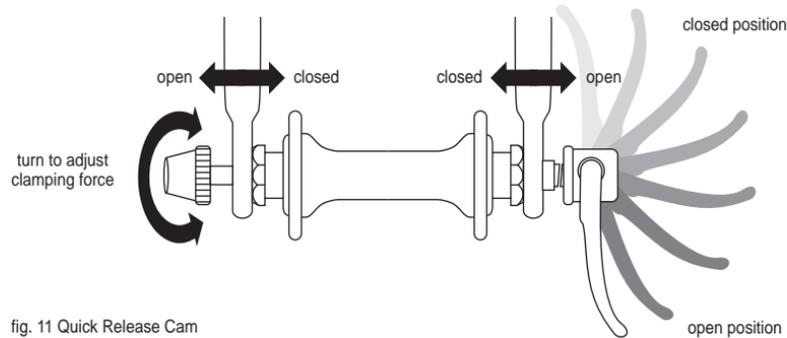
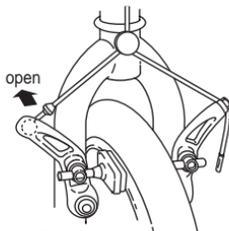

fig. 11 Quick Release Cam
fig. 16A
Invented in the 1930s to allow quick, easy wheel removal without the need for tools, the bicycle wheel quick release has become standard equipment on most recreational, sports and competition bicycles. While it looks like a long bolt with a lever on one end and a nut on the other, the wheel quick release uses a cam action to clamp the bike's wheel in place (see fig. 11). Because of its adjustable nature, it is critical that you understand how it works and how to use it properly.
## 1. Adjusting the quick release mechanism (see Fig. 11, opposite)
- (1) Open up the brake shoes (see Section 6.C.1, Figs. 16a, b, c and d).
- (2) Rotate the wheel's quick-release lever from the locked or CLOSED position to the OPEN position (Fig. 11, 12 & 13).
(3) If your front fork *does not* have a secondary retention device go to step 5.
(4) If your front fork has a *clip-on* type secondary retention device, disengage it and go to step (5). If your front fork has an *integral* secondary retention device, loosen the tension adjusting enough to allow removing the wheel; then go to step (5).
(5) Raise the front wheel a few inches off the ground and tap the top of the wheel with the palm of your hand to knock the wheel out of the front fork.
(1) Rotate the quick-release lever so that it curves away from the wheel (fig. 11 & 13). This is the OPEN position.
(3) Holding the quick-release lever in the OPEN position with your right hand, tighten the tension adjusting nut with your left hand until it is finger tight against the fork dropout (fig. 11).
(4) While pushing the wheel firmly to the top of the slots in the fork dropouts, and at the same time centering the wheel rim in the fork, rotate the quick-release lever upwards and push it into the CLOSED position (fig. 11 & 12). The lever should be parallel to the fork blade and curved toward the wheel.
- (1) Shift the rear derailleur to high gear (the smallest, outermost rear sprocket).
- (2) Open up the brake shoes (see Section 6.C.1, figs. 16A, B, C and D).
- (3) Pull the derailleur body back with your right hand.
- (4) Rotate the quick-release lever to the OPEN position (fig. 11 & 13).
- (5) Lift the rear wheel off the ground a few inches and, with the derailleur still pulled back, push the wheel forward and down until it comes out of the rear dropouts.
(3) Rotate the quick-release lever to the OPEN position (see fig. 11). The lever should be on the side of the wheel opposite the derailleur and freewheel sprockets.
(1) Open up the brake shoes (see Section 6.C.1, figs. 16A, B, C and D).
(2) With a 15mm box wrench or a six inch adjustable wrench, loosen the two axle nuts.
(3) If your front fork has a *clip-on* type secondary retention device, disengage it and go to step (4). If your front fork has an *integral* secondary retention device, loosen the axle nuts about six full turns; then go to step (4).
(4) Raise the front wheel a few inches off the ground and tap the top of the wheel with the palm of your hand to knock the wheel out of the fork ends.
(1) Open the rear brake shoes (see Section 6.C.1, figs. 16A, B, C and D).
(2) Shift the rear derailleur to high gear (the smallest rear sprocket) and pull the derailleur body back with your right hand.
(3) With a 15mm box wrench or a six-inch adjustable wrench, loosen the two axle nuts.
Most brakes have some form of quick release mechanism to allow the brake shoes to clear the tire when a wheel is removed or reinstalled. When the brake quick release is in the open position, *the brakes are inoperative*. Ask your dealer to make sure that you understand the way the brake quick release works on *your* bike (see Fig. 16A, B, C & D) and check *each time* to make sure both brakes work correctly before you get on the bike.